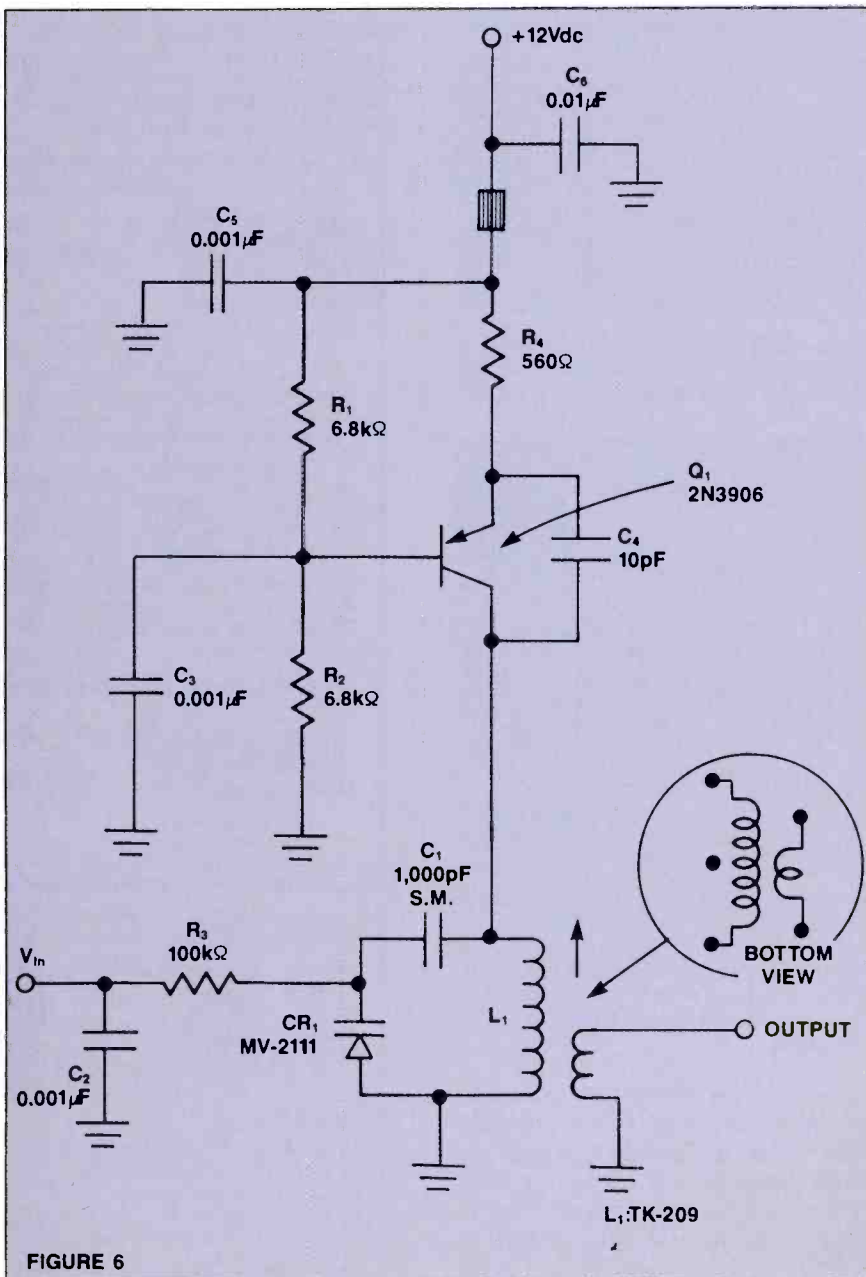
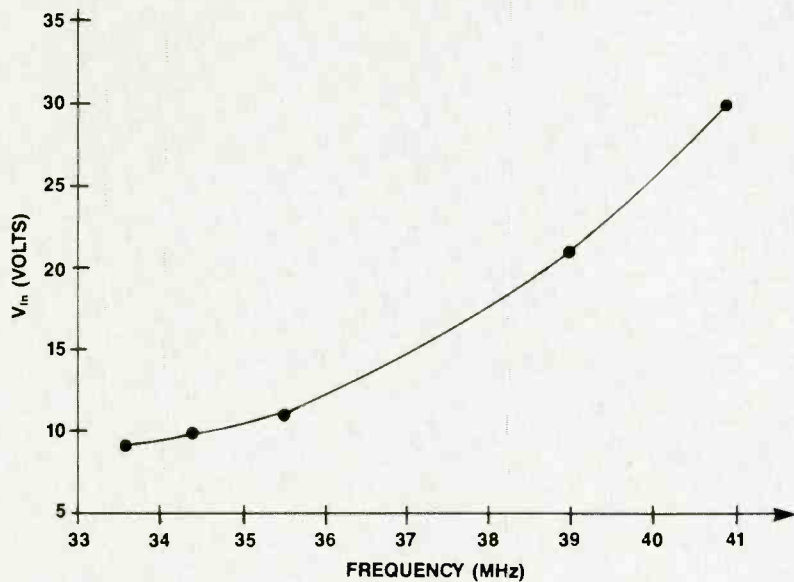

FIGURE 6
FIGURE 7
**Figure 6.** In this PNP transistor operated as a variable frequency oscillator, coil  $L_1$  is actually an untuned RF transformer designed for use as a 49MHz coil in TV IF amplifier circuits; the actual frequency of operation depends on the parallel capacitance across the primary of  $L_1$ .
**Figure 7.** Because the resonant frequency of an LC-tuned tank circuit is a function of the square root of the inductance-capacitance product, the maximum/minimum frequency of the varactor-tuned tank circuit varies as the square root of the capacitance ratio of the varactor diode. This value is the ratio of the capacitance at minimum reverse bias to the capacitance at maximum reverse bias. As a result, the tuning characteristic curve (voltage vs. frequency) is basically a parabolic function.
Figure 6 shows a circuit that I built and tested while researching this article. It consists of a PNP transistor operated as a variable frequency oscillator. Coil  $L_1$  is actually an untuned RF transformer (Toko TK-209) designed for use as a 49MHz coil in TV IF amplifier circuits; the actual frequency of operation depends on the parallel capacitance across the primary of  $L_1$ . By using a Motorola MV-2111 varactor (47pF at 4Vdc), I found that the circuit oscillated at frequencies from 33.5MHz to 40.9MHz as the applied dc varied from +8Vdc to +30Vdc. Oscillations ceased above and below these potentials (a result of "junkbox" engineering—a little care in design could make the circuit oscillate over the entire range). Note the roughly parabolic shape of the tuning characteristic in Figure 7.